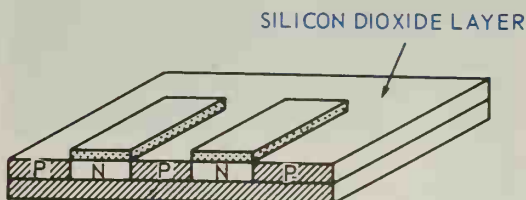

Fig. 19-11. N type material islands remain after P diffusion.
5. Next, the wafer is subjected to a diffusion process using boron. The boron diffuses into and forms a P type material on all areas not protected by the silicon dioxide. Sufficient time is allowed for diffusion completely through the epitaxial layer to the P type substrate. The wafer now appears as in Fig. 19-11, with isolated